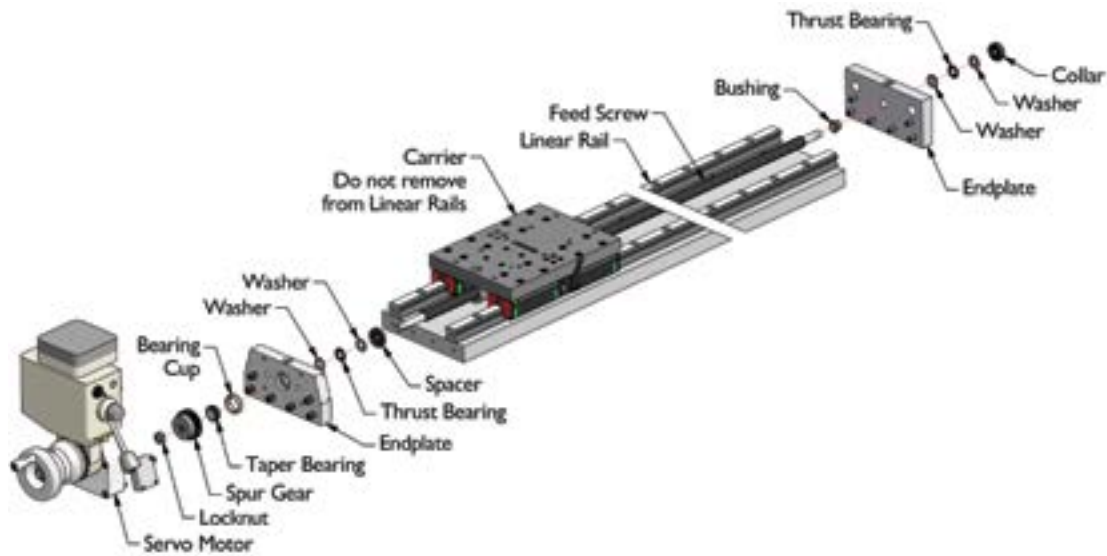

Figure 12 - X-axis Slide Assembly Maintenance
3. Inspect the X-axis slide assembly for damaged or excessively worn components. See Figure 12 for X-axis slide assembly details. Clean metal chips from the slides and rails with compressed air. Inspect the feed screw for wear or damage. Replace worn or damaged components as necessary. Apply anti-seize lubricant to screw threads.